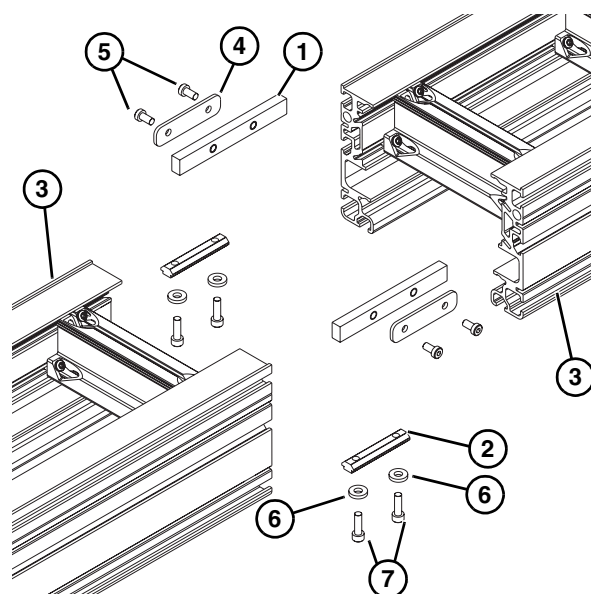

Figure 5
Typical Frame Connecting Components (Figure 5)
1. Install two bar frame connectors (Figure 5, item 1) and two drop-in tee bars (Figure 5, item 2) into one conveyor section (Figure 5, item 3).
2. Join both conveyor sections, and install plate frame connectors (Figure 5, item 4), and secure with M6x12 low head cap screws (Figure 5, item 5) on both sides. Tighten cap screws to 60 in-lb (7 Nm).
3. Install washers (Figure 5, item 6) and M6x20 socket head screws (Figure 5, item 7) into drop-in tee bar (Figure 5, item 2) on both sides as indicated. (Do not tighten hardware. This is for stand installation.)